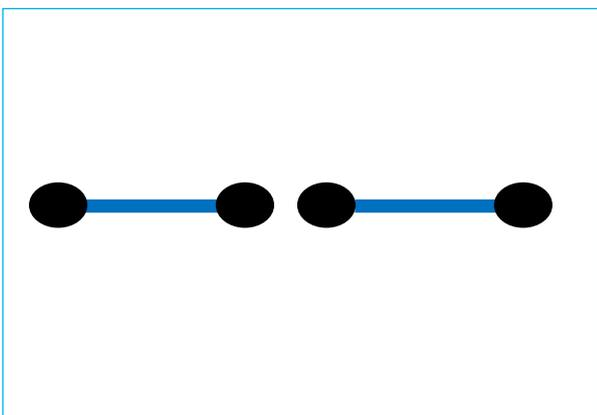

Figure 3 – Pipe Endpoints Not Connected
- Endpoints not connected: Two pipe ends are very close together but not connected. See Figure 3.